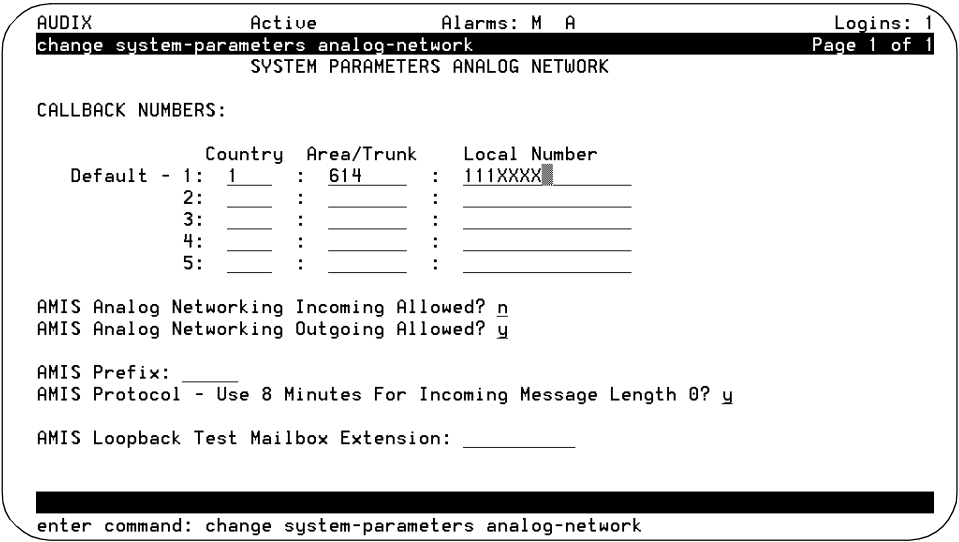

Figure 9-3. System Parameters Analog Network Screen
The system displays the System Parameters Analog Network screen (Figure 9-3).
1. On the System Parameters Analog Network window (Figure 9-3), enter **ch su test-1** at the enter command: prompt.